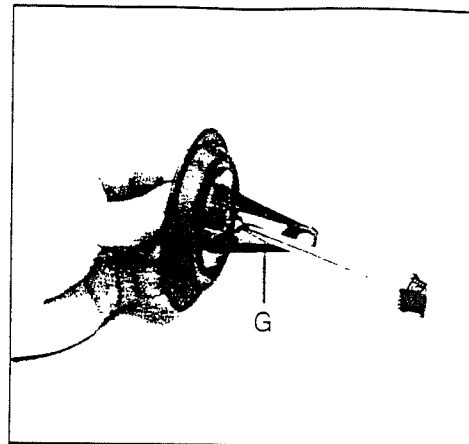

Figure 16
- 5) To replace the diaphragm, remove the connecting rod (G) from the backing plate by removing the retaining screw. Replace the diaphragm and reassemble. (See Figure 16).